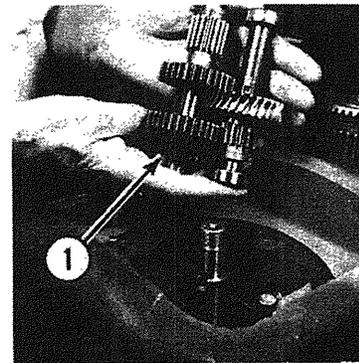

Fig. 3-28
- D. Mesh (14t) gear on worm shaft with (33t) gear on transmission shaft then install both assemblies together in the housing (Fig. 3-28). Be sure (23t) gear on the transmission shaft (1, Fig. 3-28) is in place.